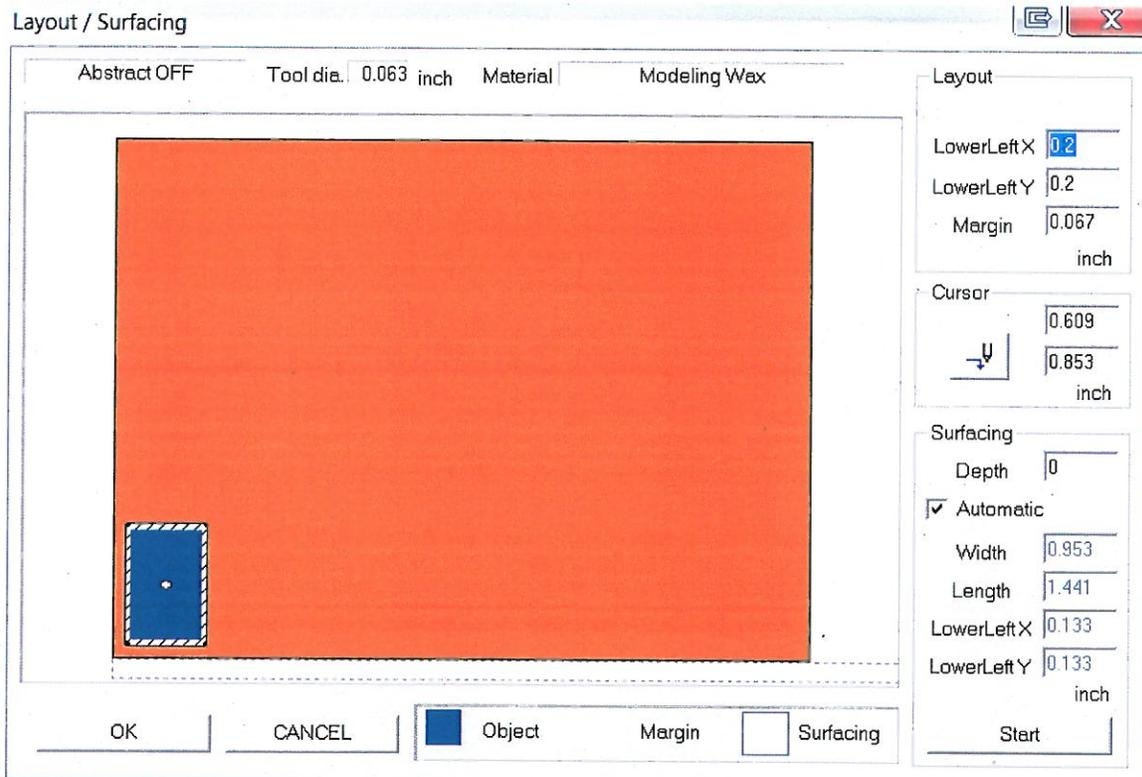

Figure 16: Layout Options
13. In the Modela Player software, go to **Option – Layout** (Figure 16).